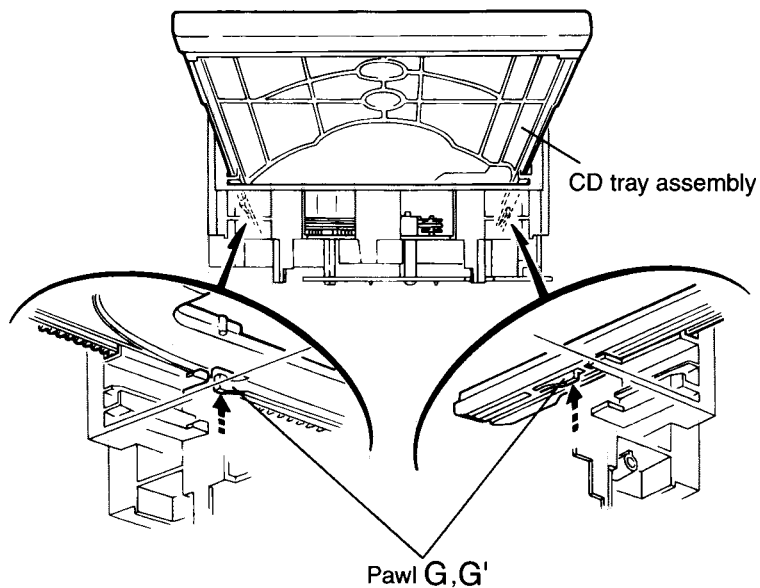

Fig.9
15. At the position where the CD tray assembly has stopped, pull out the CD tray assembly while pressing the two pawls G and G' on the back side of CD tray assembly (See Fig.9). In this case, it is easy to pull out the assembly when it is pulled out first from the stage CD tray assembly.